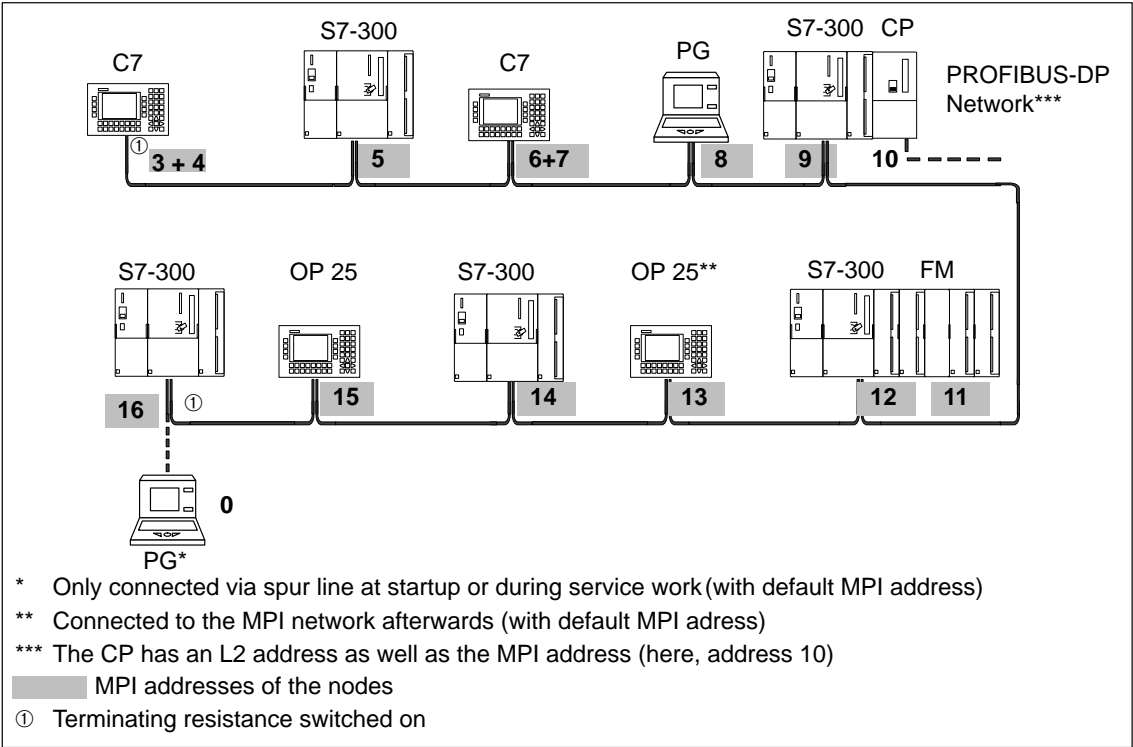

Figure 3-5 Example of an MPI Network
- Connect all nodes in the network as shown in Figure 3-5; that is, integrate the stationary programming devices and OPs directly into the network.
Figure 3-5 shows the main setup of an MPI network according to the rules listed above.